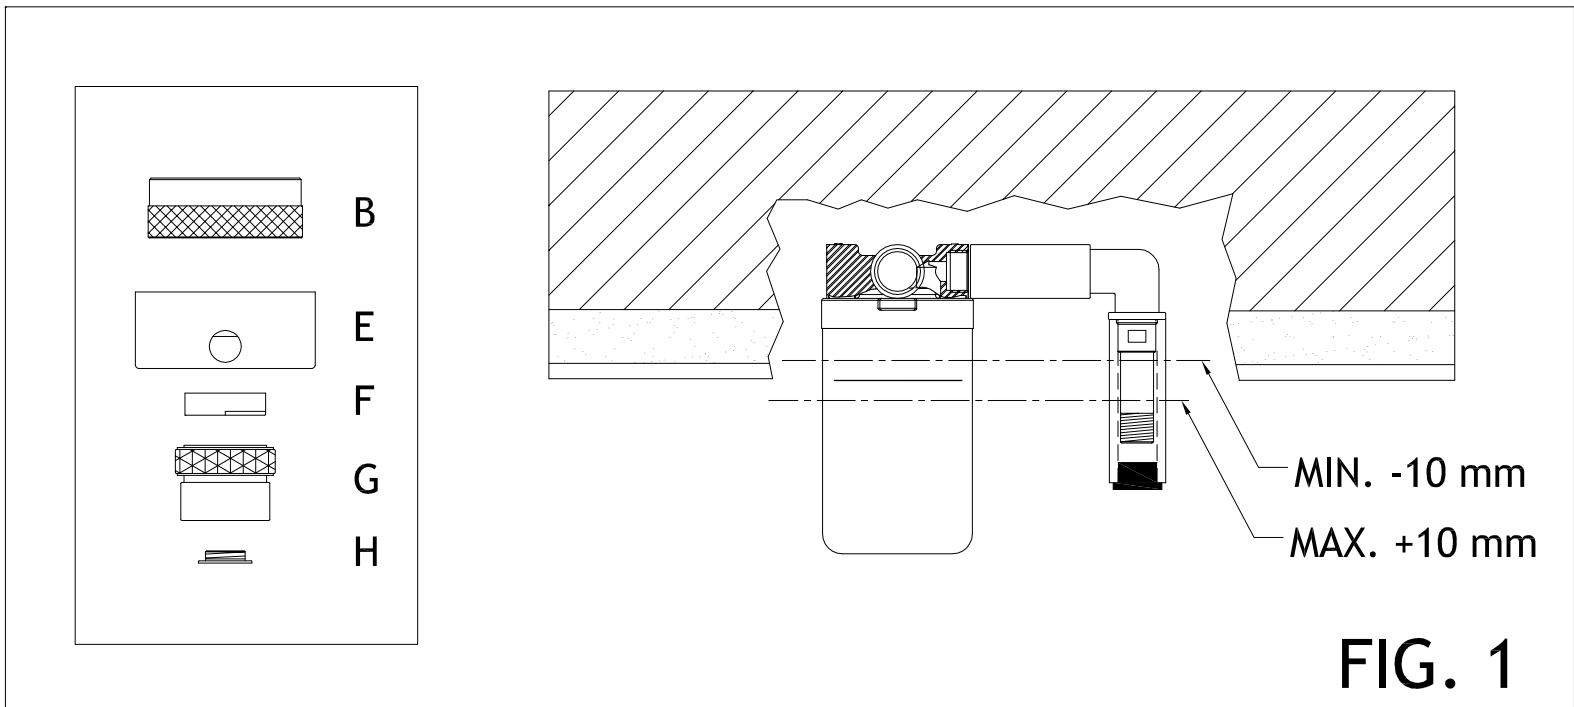

FIG. 1
- 1- The thermostatic mixer body must be installed so that the reference line on the protection lid will correspond to the future finished wall level; (check that protection lid is fully screwed on)(Fig.1).
Check on the wall that the built-in thermostatic valve is clean and that installation has been made correctly according to our separate pre-assembly instructions. In particular, check that the coloured line indicated on the plastic protection lid is positioned +/-10 mm with respect to the wall level (FIG 1) and that the shower finishing plate covers wall cutting area.